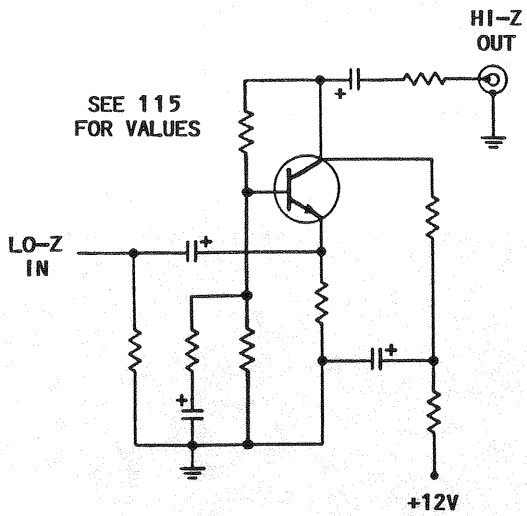
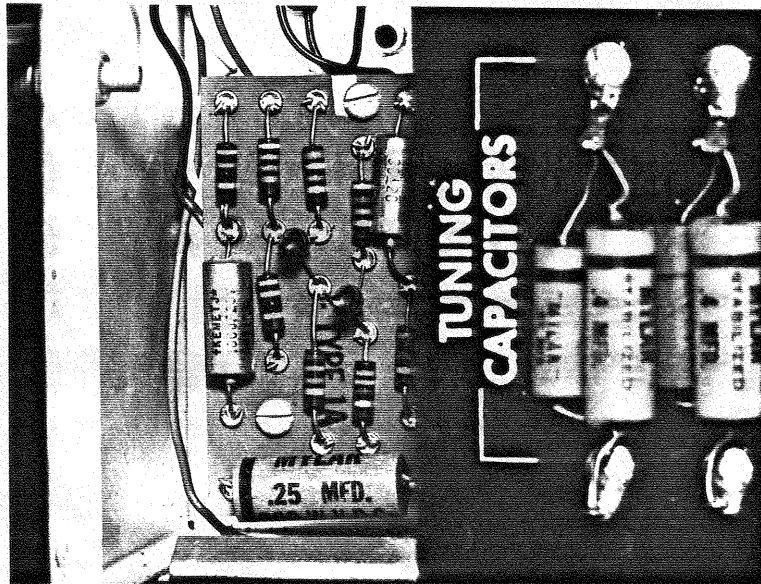

FIG. 112
FIG. 114
- c. In later production, the transformer was replaced with an active solid state circuit which came in two varieties--a single stage used just for matching purposes (Fig. 112 & 113) and a two stage which combined the matching function with a pre-amp stage (Fig. 114). Again, dead or distorted generator outputs can result from defects in these circuits.